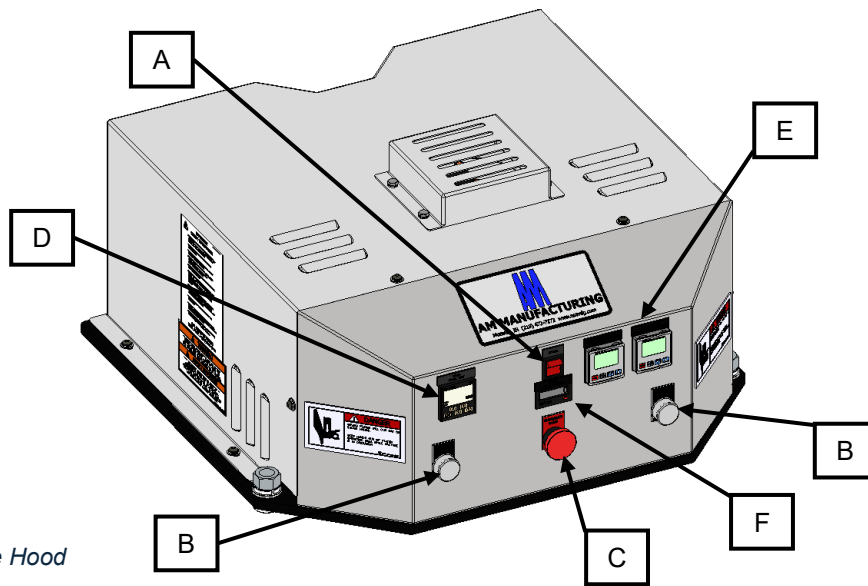

Figure 7: Machine Hood
- 2) Activate the machine's power by depressing the red on/off switch (Figure 7, A) upward. When activated, this switch will illuminate.
- 3) Set the temperatures of both the upper and lower press platens (Figure 7, E) to 250 °F and allow the press to heat up to that temperature.
- 4) While the machine is heating up, set the dwell timer (Figure 7, D) to 5 seconds and the pressure regulator to 300 PSI.
- 6) Close the drawer to the pressing position and depress the two green start buttons (Figure 7, B). The hydraulic cylinder will activate, and the die will descend to the lower platen.
1. Turning the Little Toro on with the On/Off Switch (Figure 7, A.)
**⚠ WARNING:** If an emergency arises and something becomes trapped beneath the die while the machine is pressing, do not de-activate the machine's power! Doing so will "freeze" the die in position and the object beneath the die will remain trapped. Instead, depress the emergency raise button (Figure 7, C) and the platen will immediately rise safely out of the way.
3. The Platen Start Buttons (Figure 7, B.)
- As soon as the die begins its descent, the press dwell timer (Figure 7, D) will begin counting.
4. The Emergency Raise Button (Figure 7, C.)